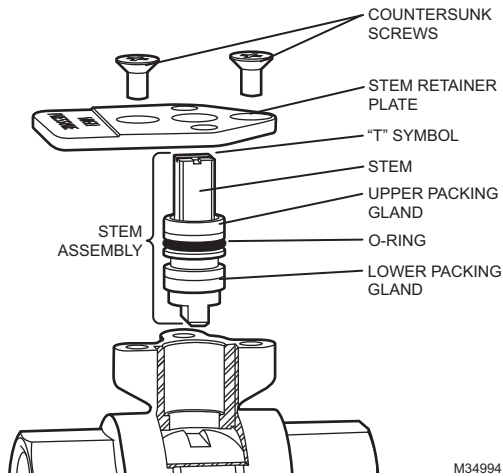

Fig. 32. Replacing the valve stem in-line.
The valve stem can be replaced in-line, if necessary. See Fig. 32.
7. Slide the sub shaft over the stem with the tab oriented as shown in Fig. 32.